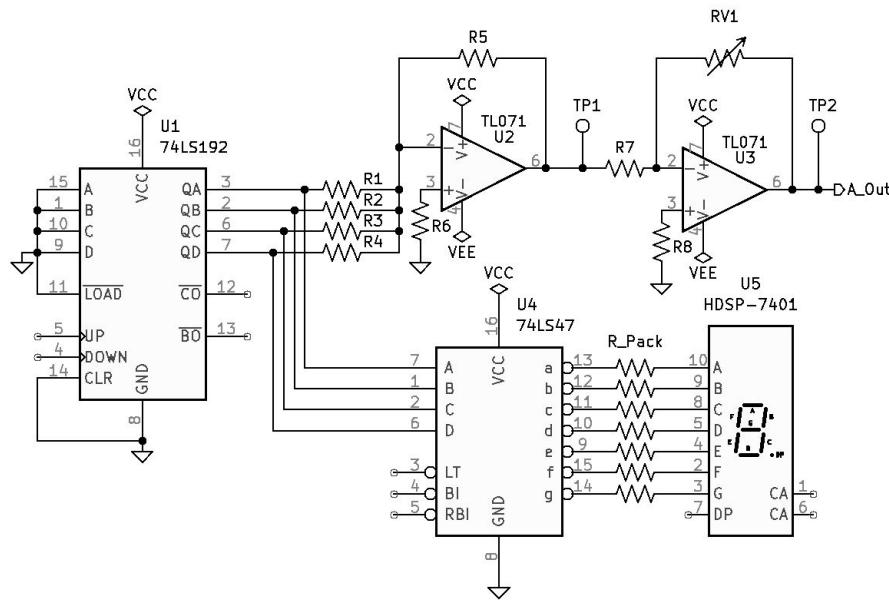

Figure 8.7: Design Test Circuit 1
1. Identify each IC used in Figure 8.7 Design Test Circuit 1 and include the following.